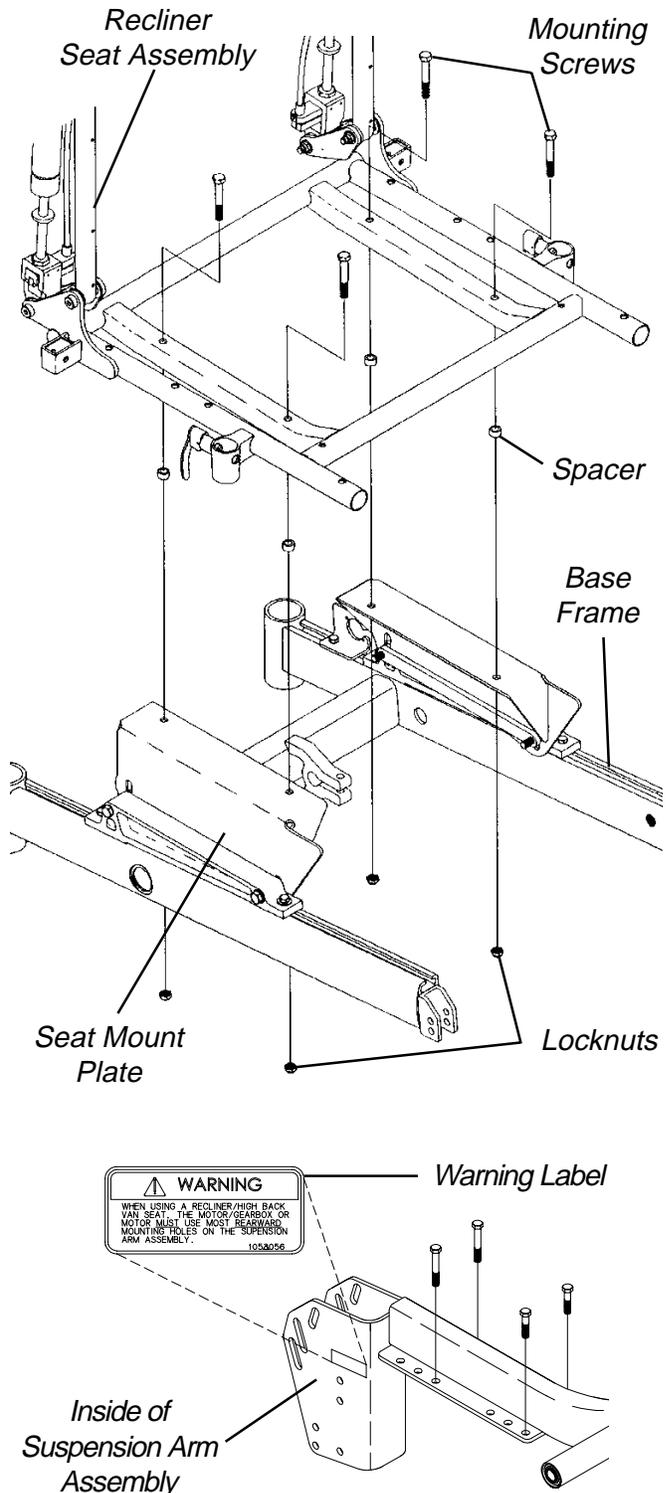

FIGURE 7 - INSTALLING/REPLACING ADJUSTABLE 16 TO 19-INCH DEEP RECLINER SEAT FRAME ONTO ARROW OR X BASE
INSTALLING/REPLACING ADJUSTABLE 16 TO 19-INCH DEEP RECLINER SEAT FRAME ONTO ARROW OR X BASE FRAME (FIGURE 7)
2. Perform one (1) of the following in **PROCEDURE 7** of this manual:
- NOTE: There are three (3) types of seat mount plates; low, medium, and high heights. The seat mount plate shown in this illustration represents the medium height. Refer to MOUNTING PLATE - SEAT ANGLE ADJUSTMENT AND INSTALLATION ORIENTATION in PROCEDURE 6 of this manual for illustrations of the low and high heights.*
7. Reinstall recliner seat pan with existing six (6) mounting screws.
8. Install the two (2) warnings labels onto the two (2) suspension arm assemblies. Refer to FIGURE 7 for correct label placement.